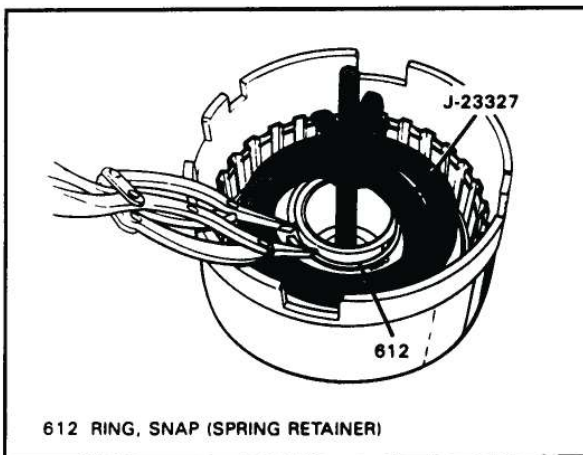

Figure 87
11. Lay the snap ring on housing and install spring compressor as shown in Figure 87.
12. Compress the return springs and install direct clutch snap ring as shown in Figure 87.
14. Remove the spring compressor from the direct clutch housing (See Figure 87).